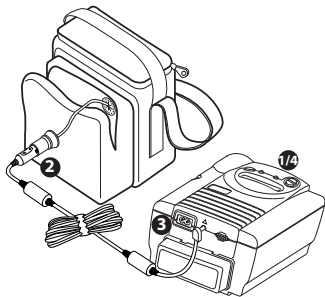

Figure 5: Connecting the DC Cord
2. Plug the adapter end of the DC Cord into the battery pack socket. See Figure 5.